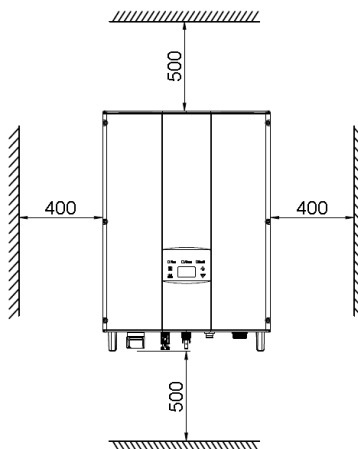

Figure 4.3 Installation spacing
- (2) The installation site must be well ventilated and away from raindrops or direct sunlight.
- (3) There must be enough pre-reserved space around the installation site for convenient disassemble of the inverter and air convection, as shown in Fig 4.3.